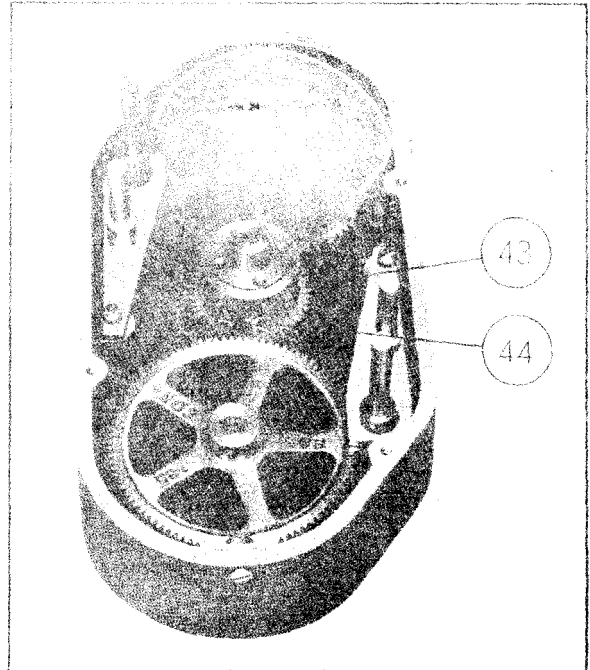
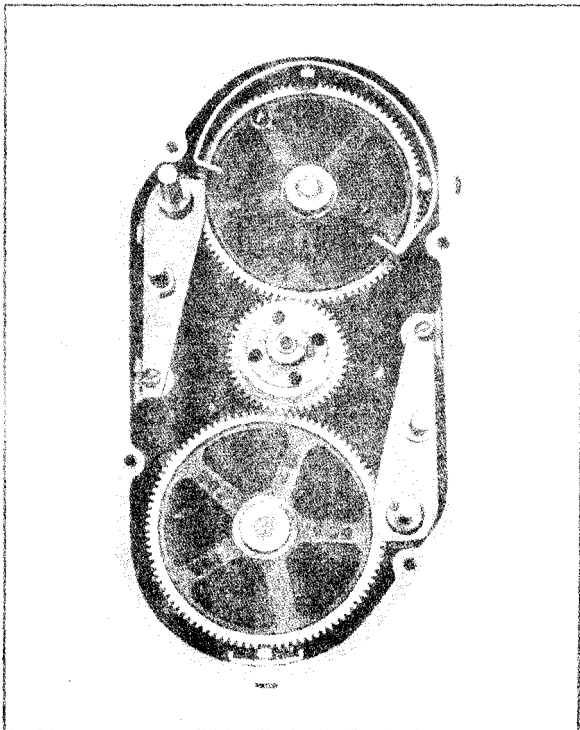

Figure 4-32. Attenuator Gear Case Showing Spring-Loading of Pinion
Figure 4-31. Front View of Attenuator Gear Case
Figures 4-31 to 4-33 show the assembled attenuator drive. Since any part can be replaced without extensive disassembly, no assembly procedure is given. The only precaution necessary is that the upper and lower pinions (43) be properly spring-loaded. This can be seen in figure 4-32 where it is shown that, when spring-loaded, the 2-56 screw (44) which holds the spring is in the center of the hole in the pinion.